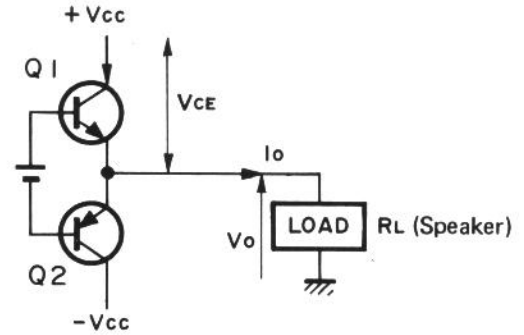

Fig. 4 SEPP Circuit
- (1) Final transistor
- (2) Power transformer
- (3) Power circuit (rectifying diodes, etc.)
- (4) Lamps, etc.
The following explanation is concerned with item (1), above. Consider a class B SEPP circuit as shown in Figure 4. The power consumption  $P_c$  of each of the transistors can be expressed as the product of the collector current  $I_c$  and the collector-emitter voltage  $V_{CE}$ . Thus,